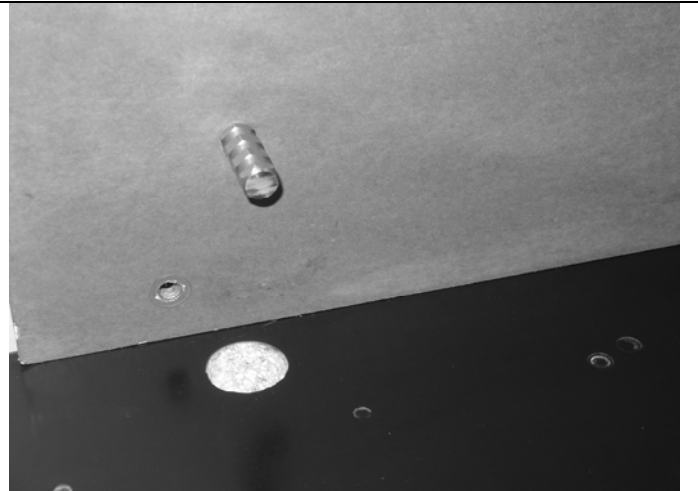

Figure 1
a) Fabricate a template (i.e. constructed of plywood or metal) The template should be designed to locate the new insert hole off a reference point (ie. leveling insert or other existing insert) located on the respective drawing of the given base (please consult www.basetek.com to obtain a particular product drawing). Fasten the insert to a bolt and include the provided nylon flat washer between the template and insert to insure the insert will recess below the top surface of the base when installed (**Figure 1**).